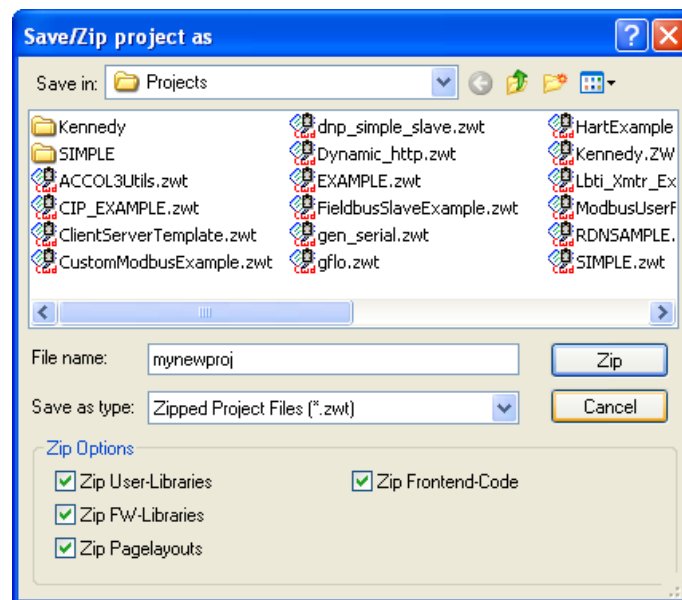

Figure 4-1. Saving a Backup of Your Project
2. In the “Save/Zip project as” dialog box, specify a project name in the **File name** field. In *Figure 4-1* we chose the name **mynewproj**.